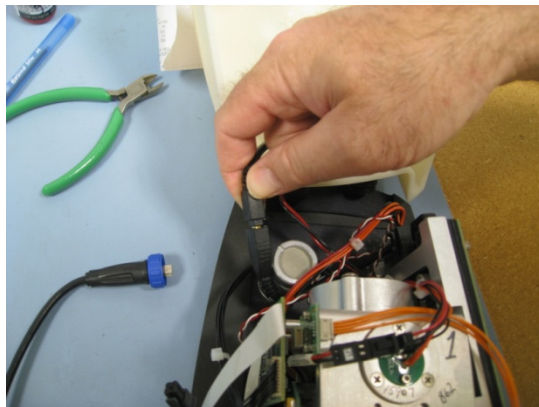

Figure 26. Disconnecting the USB cable
- 4 Disconnect the USB cable. The USB connector is the black connector (see Figure 26).